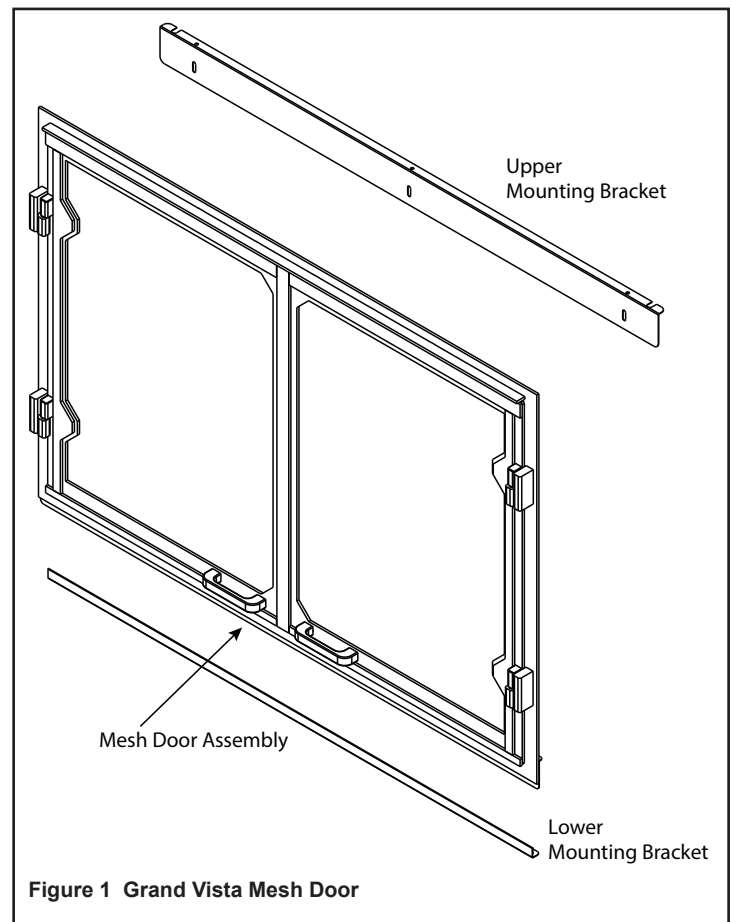

Figure 1 Grand Vista Mesh Door
4. Install lower mounting bracket, see Figure 1, using the screws removed in Step 3.